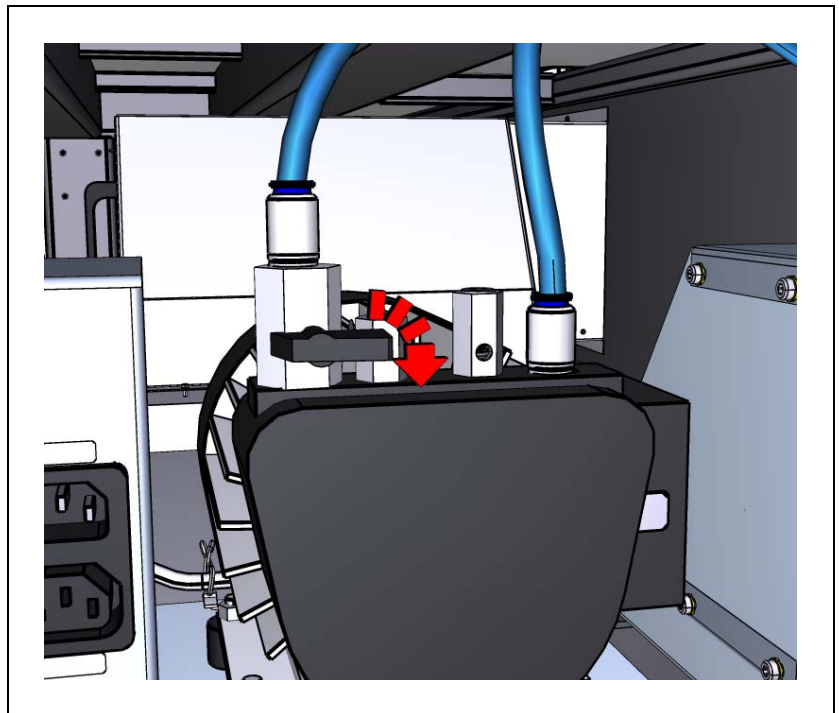

Figure 10-13. Shut-off valve.
1. When prompted by TPSys, turn off the shut-off valve, see Figure 10-13.